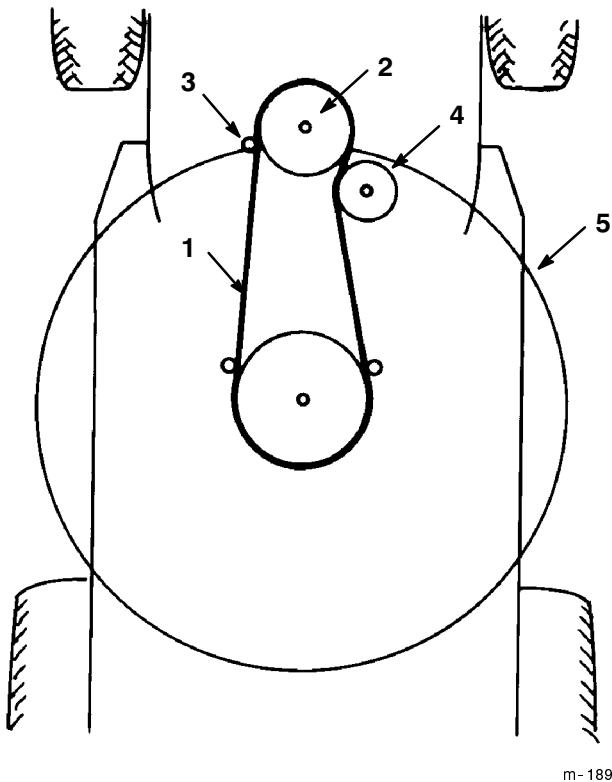

Figure 42
- Remove the mower belt from the lower engine pulley (Fig. 42). If you are careful, you can flex the belt guide(s) just far enough away from the pulley to remove the belt. If it is too difficult to remove the belt, loosen the bolts and nuts securing the belt guides.
4. Install mower belt onto the lower engine pulley (Fig. 42). If you are careful, you can flex the belt guide(s) just far enough away from the pulley to install the belt. If it is too difficult to install the belt, loosen the bolts and nuts securing the belt guides.